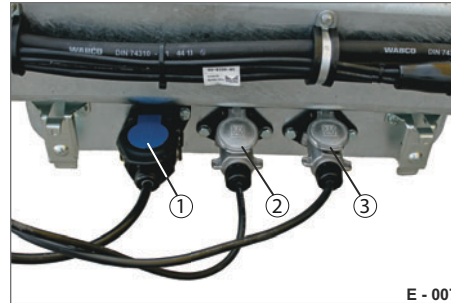

Fig. 8 Park position on tongue
- ▶ Pull the respective plug out of the parking socket (Fig. 8/2 & Fig. 8/3) and insert the plugs (7-pin) into the towing machine.
- ▶ Pull the plug out of the parking socket (Fig. 8/1) and insert the plug (7-pin) into the towing machine.